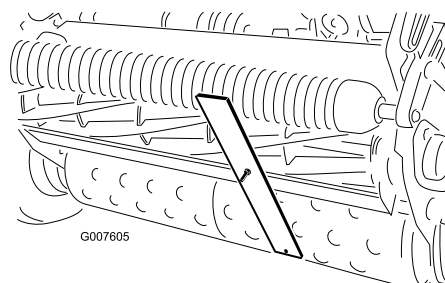

Figure 48
4. Hook the screw head on the cutting edge of the bedknife and rest the rear end of the bar on the rear roller (Figure 48).